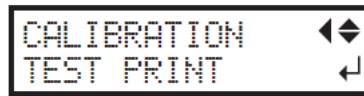

Fig 64: Issuing the Test Printing
Step 4: Press the **ENTER** button from the Control Panel of the print engine for test printing (Refer to Fig 64).